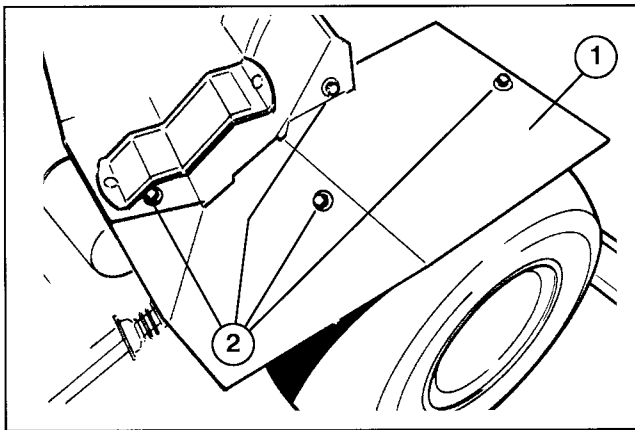

Figure 58
ADJUSTING TRANSMISSION FOR NEUTRAL (Fig. 58–59)
1. To expose traction rod, remove (4) screws securing right fender (Fig. 58) to frame and remove fender.